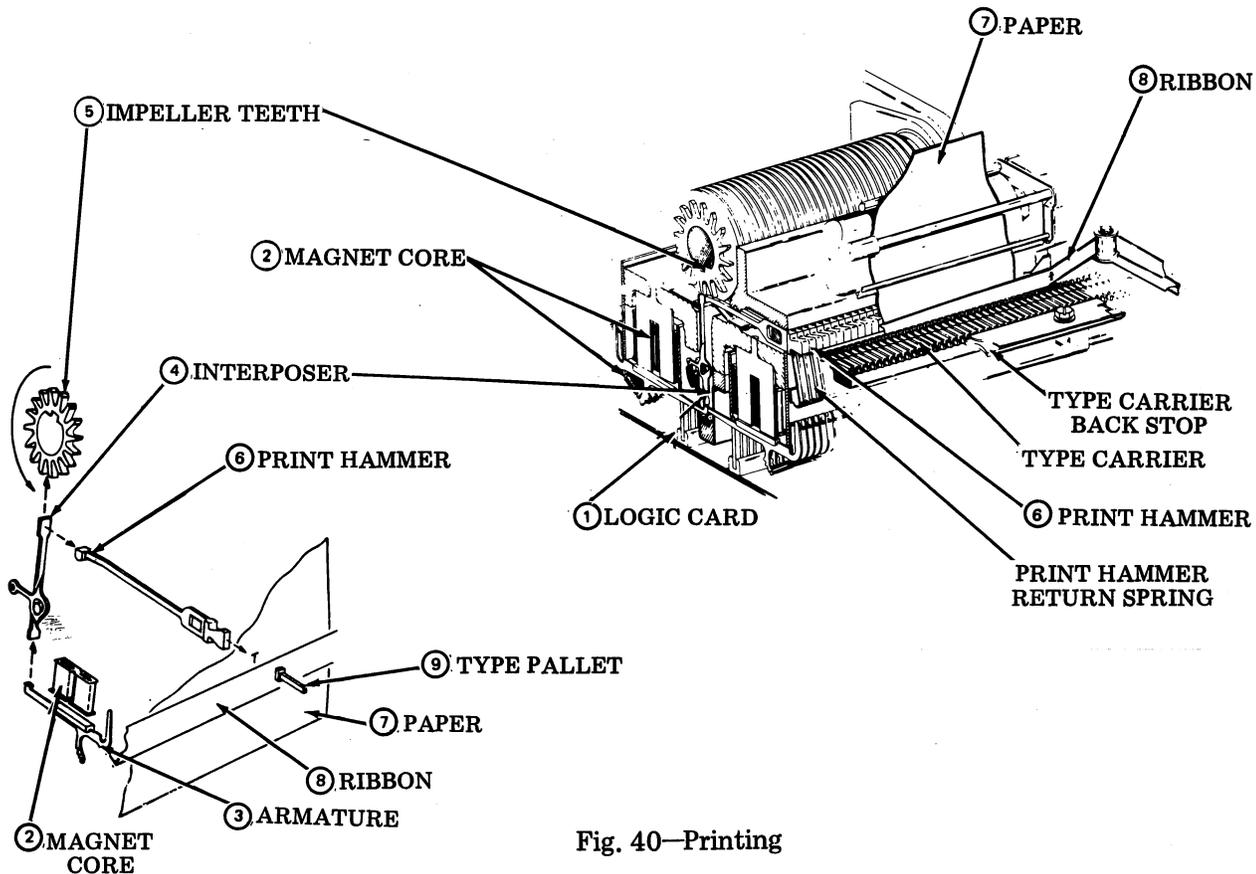
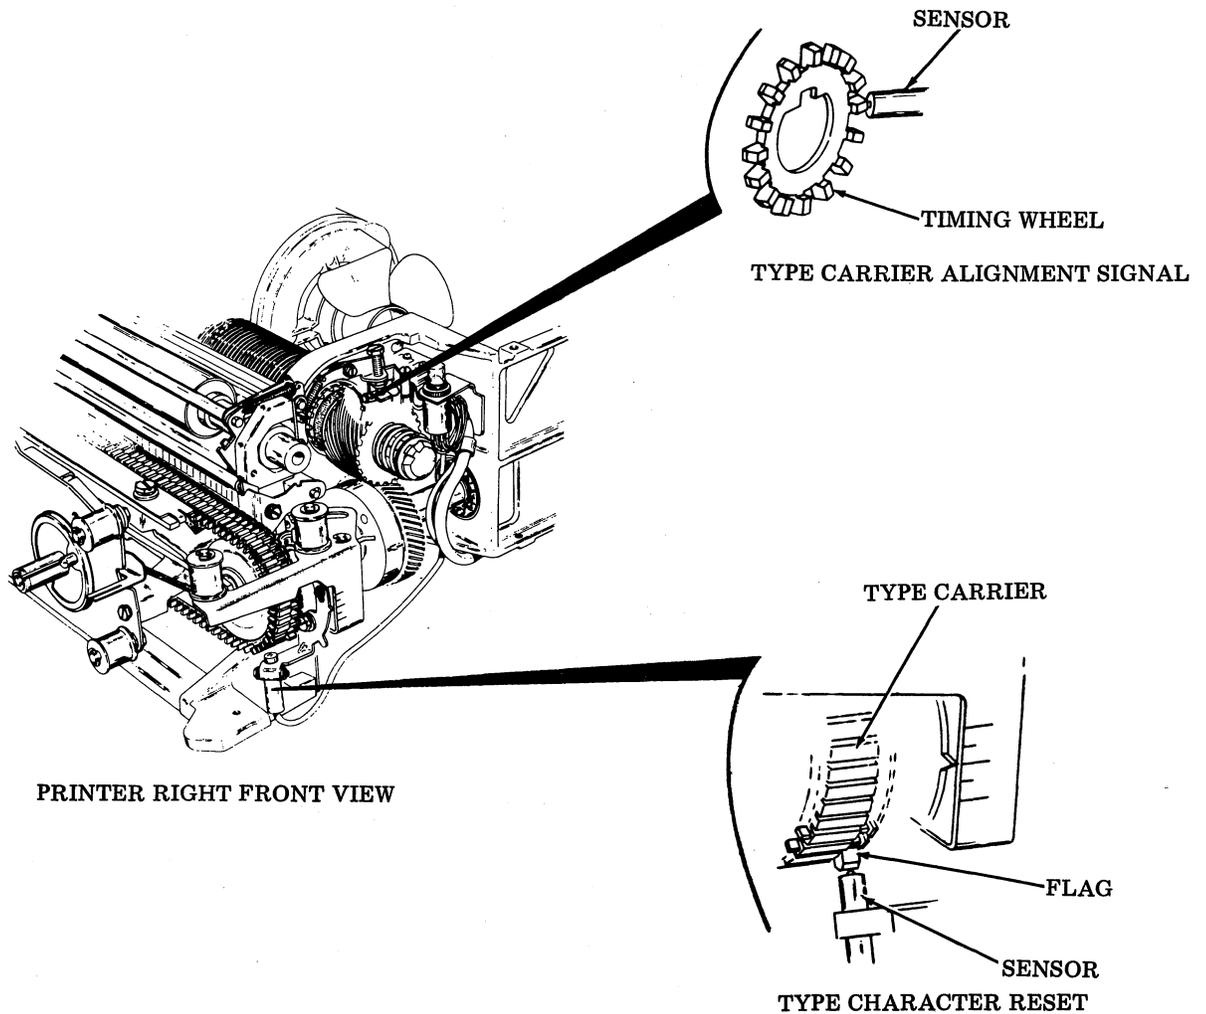

Fig. 40—Printing
Fig. 41—Printer Timing Signals
G. Printing (Fig. 40)
3.27 The electronics of the logic card ① controls the mechanism for each column in the print head. The print head contains the coil banks, interposer banks, armature banks, hammer banks, and the interposer. A pulse from the logic card will energize the magnet core ②, and its associated armature ③ is attracted to the magnet. The magnetic attraction of the armature then pushes its associated interposer ④ up into the continuously rotating impeller teeth ⑤. At this point the impeller tooth pivots the interposer forward to strike its corresponding hammer ⑥. The hammer impacts the paper ⑦ and the ribbon ⑧ into the intended type pallet ⑨.
H. Printer Timing Signals (Fig. 41)
3.28 The printer contains two (2) magnetic sensors which provide timing information to the printer electronics which indicates the mechanical events in the printer. Firing of a given hammer is initiated by a pulse from the printer logic card. This pulse must be in phase with the related impeller of that hammer and also must cause the desired character to print. Two sensors are needed to give this result.